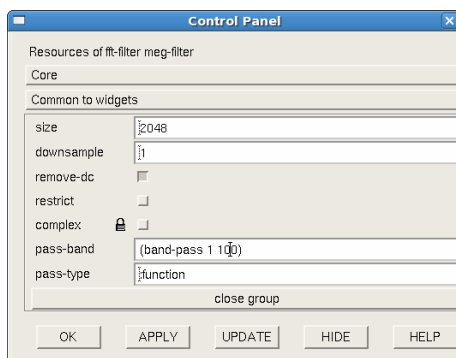

Figure 49: Adjust the filtering parameters.
- Select **Displays -> Control panel (Alt-d + c)** and double-click on widget **meg-filter** (or **eeg-filter**) to adjust the filter settings. The details of the filtering are presented in the *Signal Processor User's Guide* section 4.2. In brief, you can set high-pass, low-pass, or band-pass by typing in the text field next to **pass-band** (Figure 49).